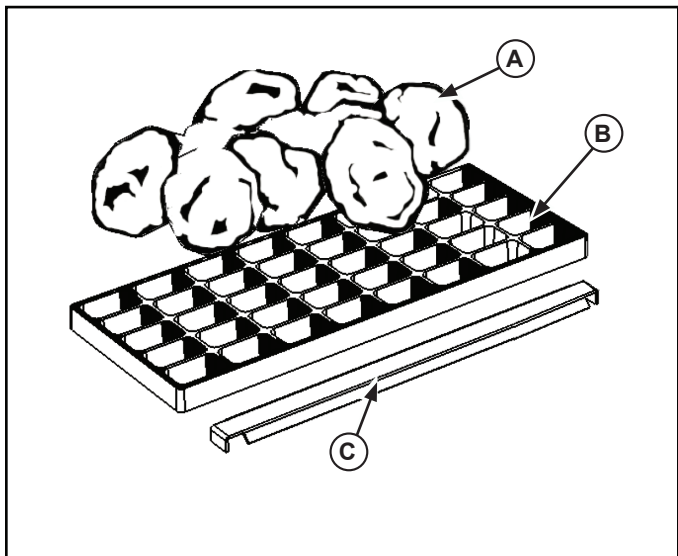

Figure 2. Lava Rock Components.
2. Remove the lava rock (A) and save for future reuse. See Figure 2.
3. Remove the waffle grate(s) (B) and save for future reuse.
4. Remove the lava rock cover(s) (C) and save for future reuse.
3. Place the lava rock cover(s) (C) over the burner tubes. See Figure 2.
4. Set the waffle grate(s) (B) into place.
5. Set the lava rock (A) onto the waffle grate(s) (B) and spread out evenly.